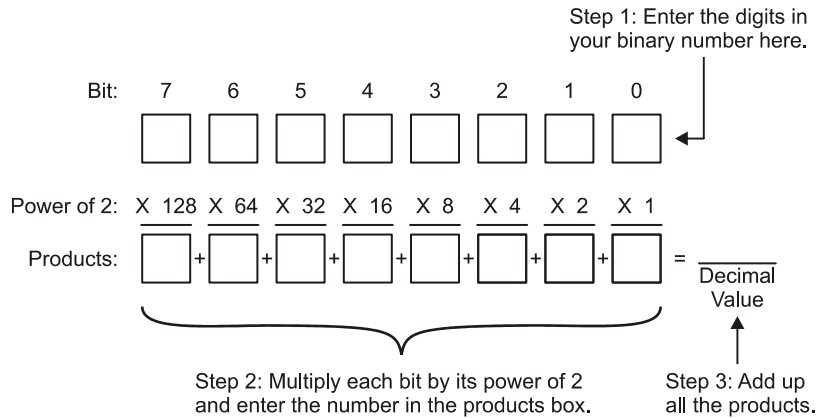

Figure 2-2
Figure 2-2 shows how to convert a binary number with up to 8 bits (a byte) to its corresponding decimal value.
- √ Hand-calculate the value using the steps shown in Figure 2-2.